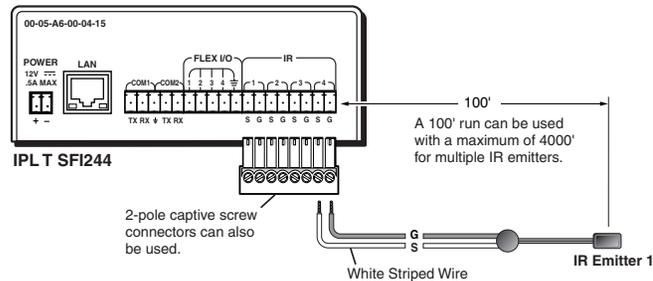

Figure 3-3 — IR connection with 8-pole captive screw and IR emitter
1. Connect one end of an IR emitter cable to the rear panel IR port connector of the interface unit. See figure 3-3 for connection options.